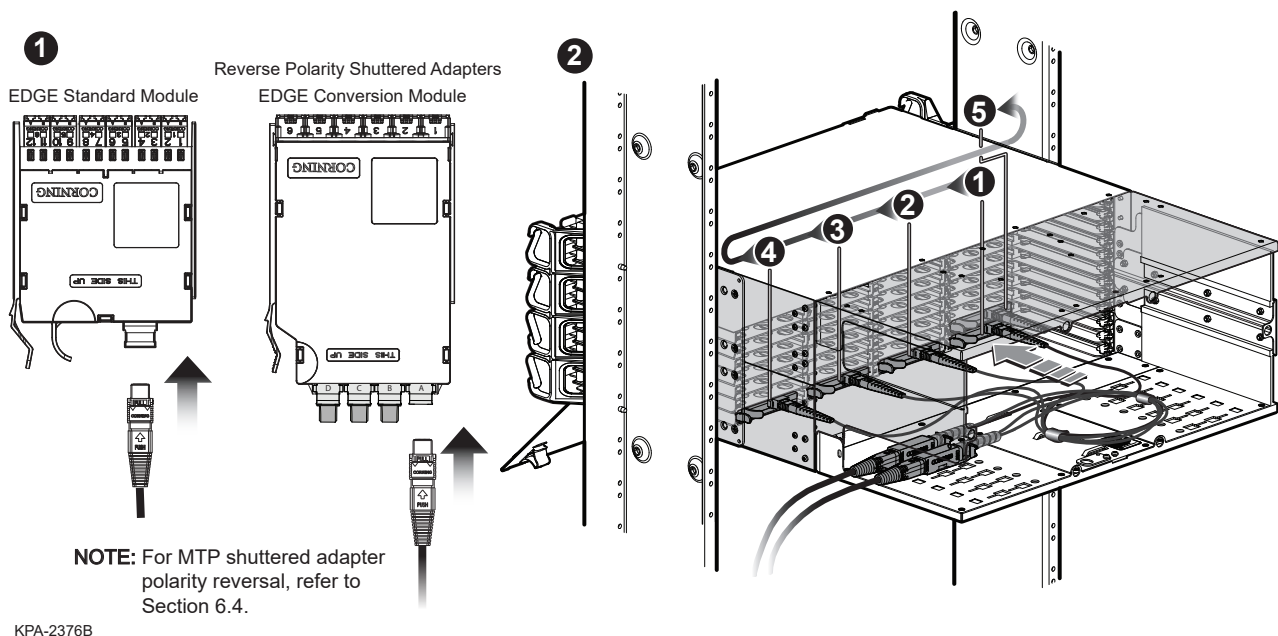

Figure 17 — Load EDGE Modules
- Step 2:** Mate the MTP connector(s) into the adapter(s) at the back of the module (Figure 17) with the MTP key down/opposite the module label.
- Step 4:** Loop slack as shown in Figure 17, leaving enough slack to pull out trays without violating the minimum bend radius.
- Step 6:** Loosely capture fiber slack with hook-and-loop straps (Figure 17).